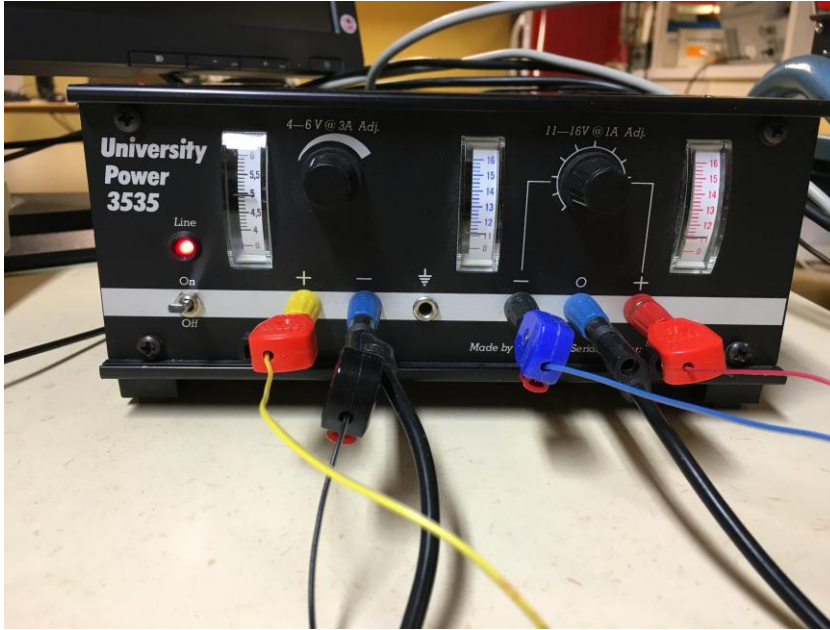

Figure 3: All cables connected to the power supply box
5. Connect the power cables of the distribution box to the power supply box by first connecting the two blue ground contacts on the power supply box to each other. Then connect the black cable from the distribution box to one of these blue ground contacts. Next step is to connect the blue cable from the distribution box to the black contact on the power supply box. Lastly connect the red and the yellow cables from the distribution box to the red and yellow contacts on the power supply box. A picture of all connected cables is displayed in Figure 3.